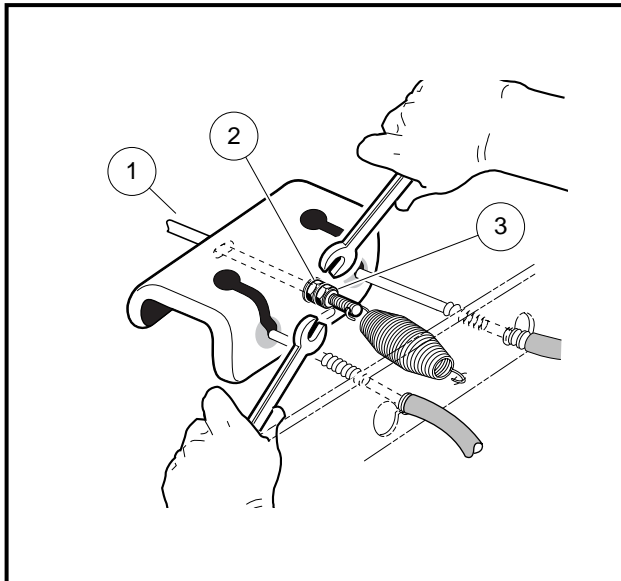

Figure 5-1 Loosen Equalizer Rod Nuts
- 1.2. To provide slack in the brake cables, loosen the equalizer retaining nuts (2 and 3) on the equalizer rod (1) (**Figure 5-1, Page 5-2**).